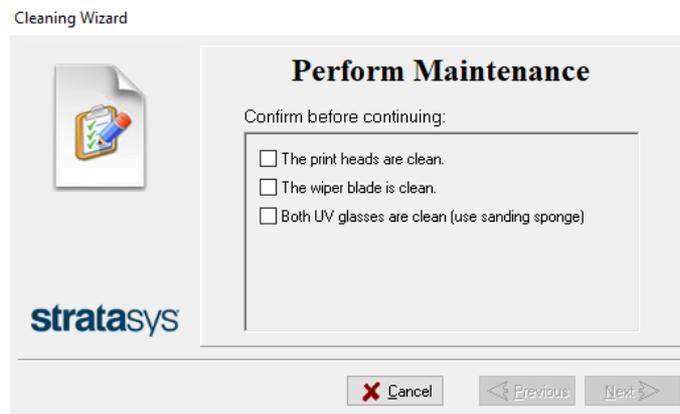

Figure 4-44 Wizard screen during cleaning tasks
13. Select the confirmation check boxes in the wizard screen (see Figure 4-44) and click **Next**.